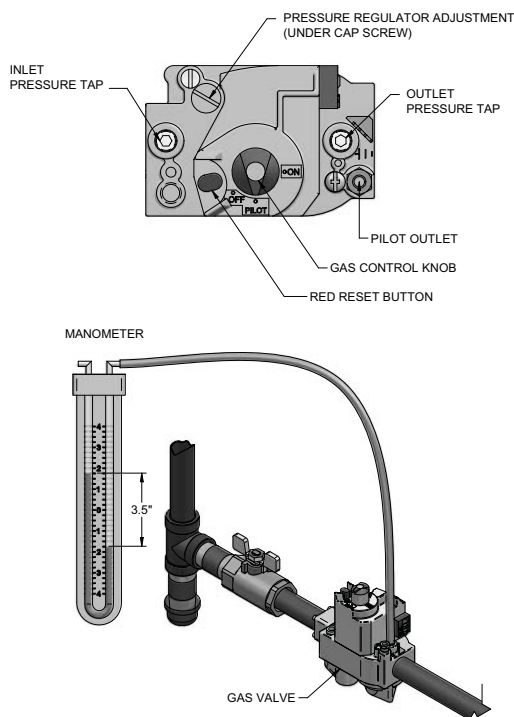

Figure 3-3_Manifold Pressure Adjustment
- Remove the 1/8" hex plug located on the outlet side of the gas valve and install a fitting suitable to connect to a manometer or magnahelic gauge. See FIG. 3-3. Minimum range of scale should be up to 5" w.c. for Natural gas models and 10" w.c. for L.P. gas models.
- Remove the pressure regulator adjustment cap screw on the gas valve. See FIG. 3-3 for location.